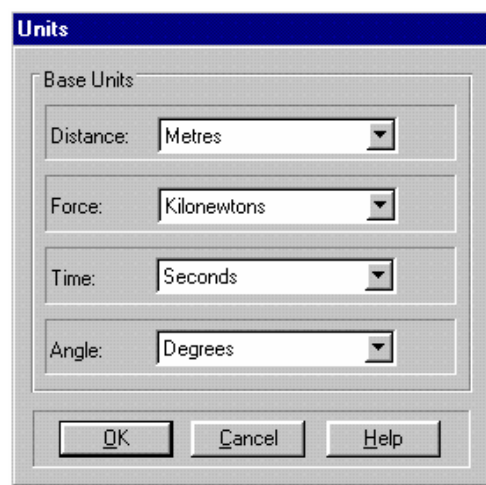

Figure 5 Units dialog box
- Step 2** Use the list boxes to select the appropriate units for Distance, Force, Time and Angle as shown in Figure 5. Click on **OK** to exit, once you have finished.